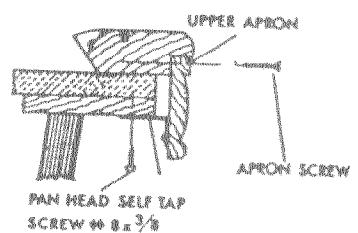

Fig. 13
24. Attach aprons to rails securely, using eighteen (18) apron screws, #8 x 1-14/'' long as shown in Figure 13.